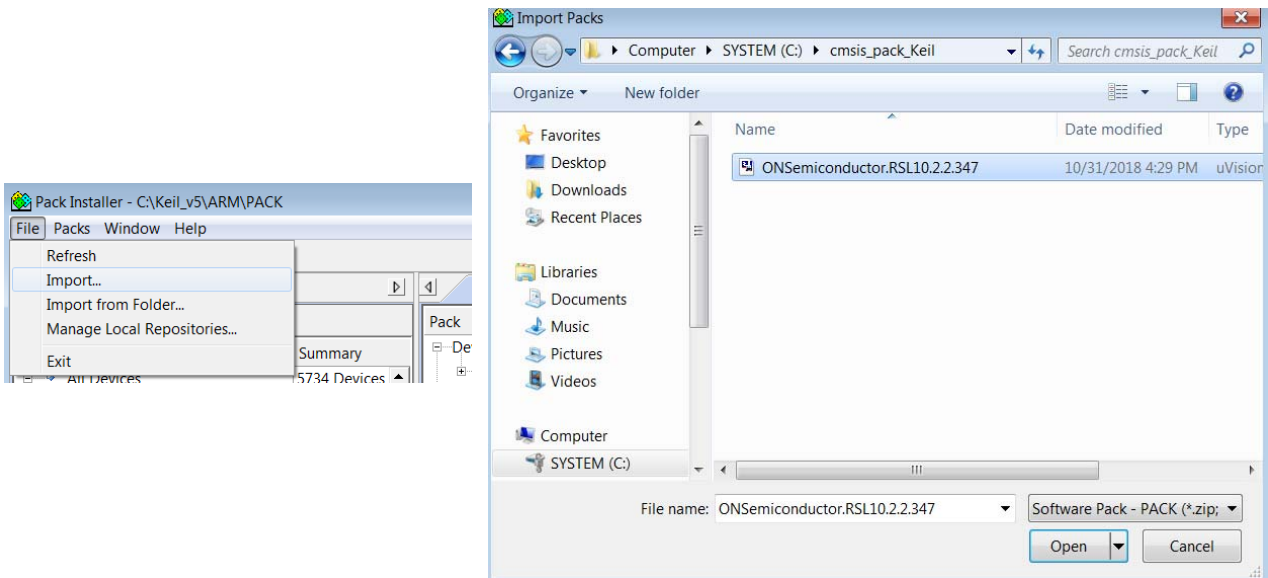

Figure 17. Installing the RSL10 CMSIS-Pack for the Keil μ Vision IDE
2. Click on **File > Import**, select your pack file `ON Semiconductor.RSL10.version.pack`, and click **Open** (see Figure 17). **version** is the RSL10 version, such as 2.2.347.